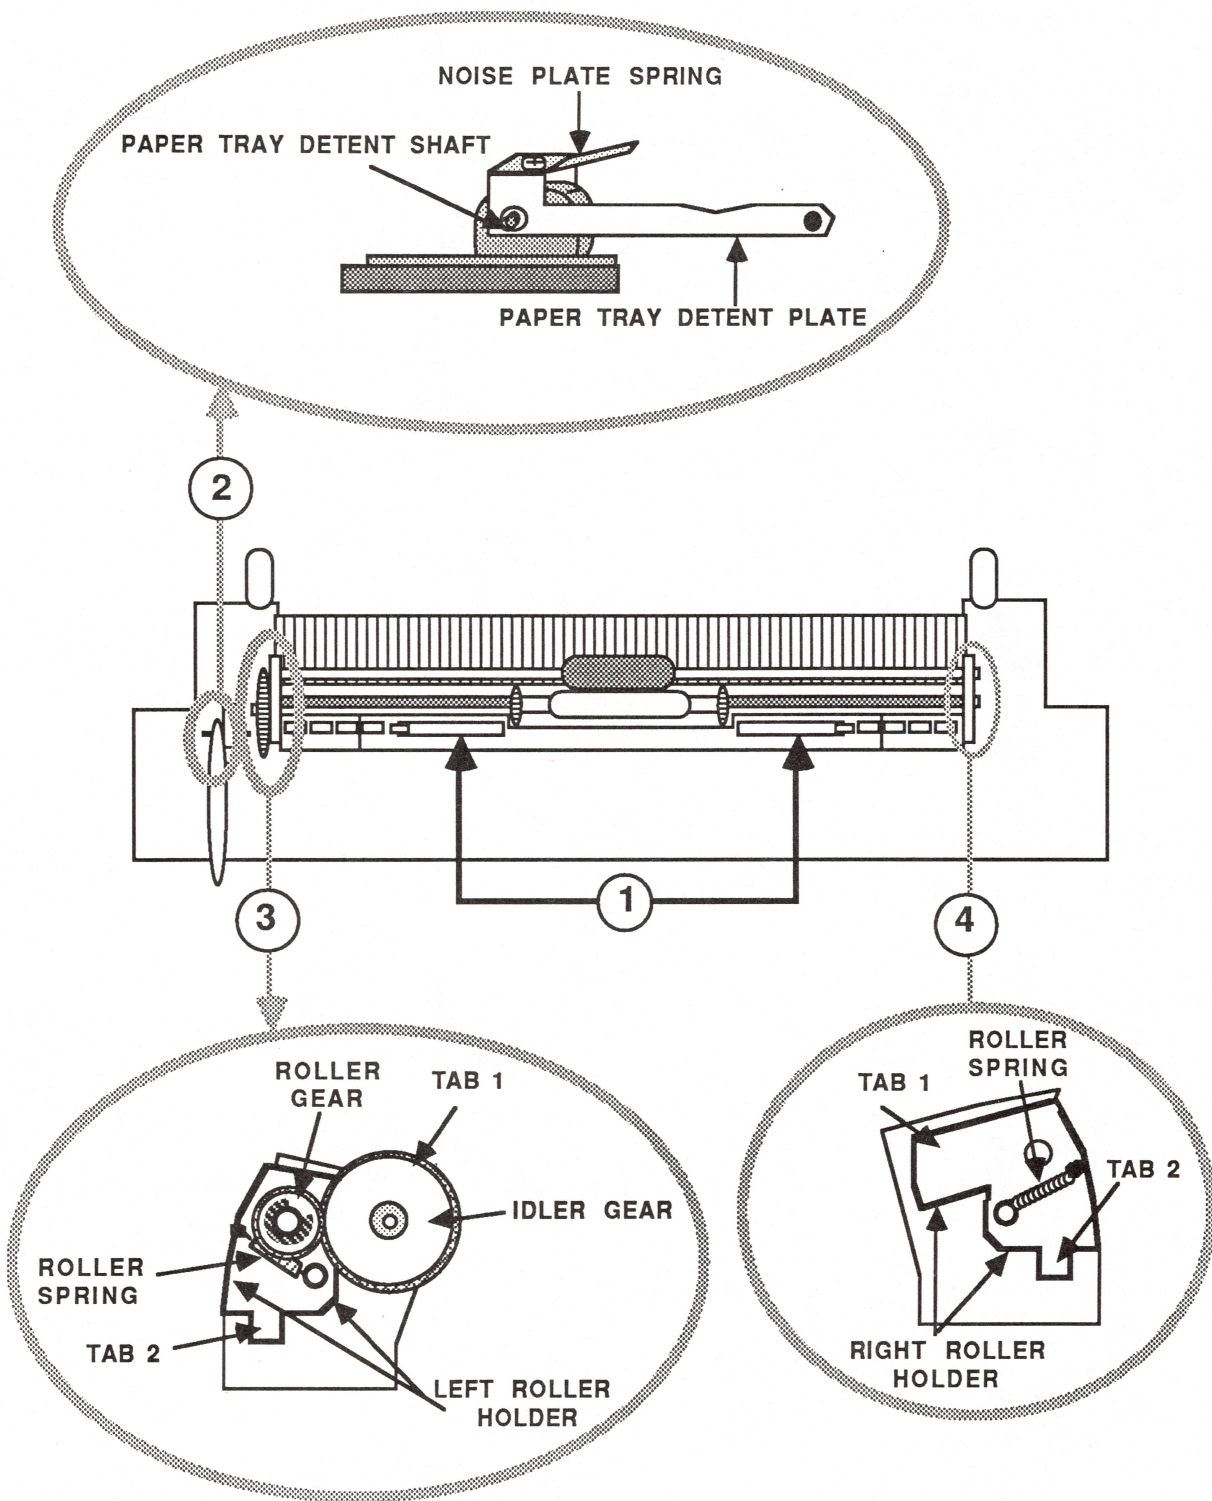

FIGURE 7
2. Lay the paper tray as shown in Figure 7. Pry off the paper tray locks (see Figure 7, #1). Using a small flathead screwdriver, pry off the upper paper tray around the outer edge of the assembly (the hinges are part of the upper paper tray). The tray snaps onto the tabs. Some of the tabs may break off as you remove it.
3. Locate the paper tray detent plate on the left side (see Figure 7, #2). Remove the paper tray detent shaft. Lift the paper tray detent plate off the lower paper tray. Set the parts aside.
4. Gently pull the idler gear, located on the left side of the tray, towards you to release tab 1. At the same time, insert a jeweler's screwdriver under tab 2 and slide the left roller holder free of the tabs (see Figure 7, #3).
5. Using a jeweler's screwdriver, gently pry tab 1 on the right side of the tray loose. Pry tab 2 loose and lift the right roller holder free (see Figure 7, #4).
7. Remove the roller springs located on each side of the assembly (see Figure 7, #3 and #4). The springs hold the roller shaft with the eject shaft in place.
| IPL.15 | Power Supply and Main CPU PCB (Figure 7) |